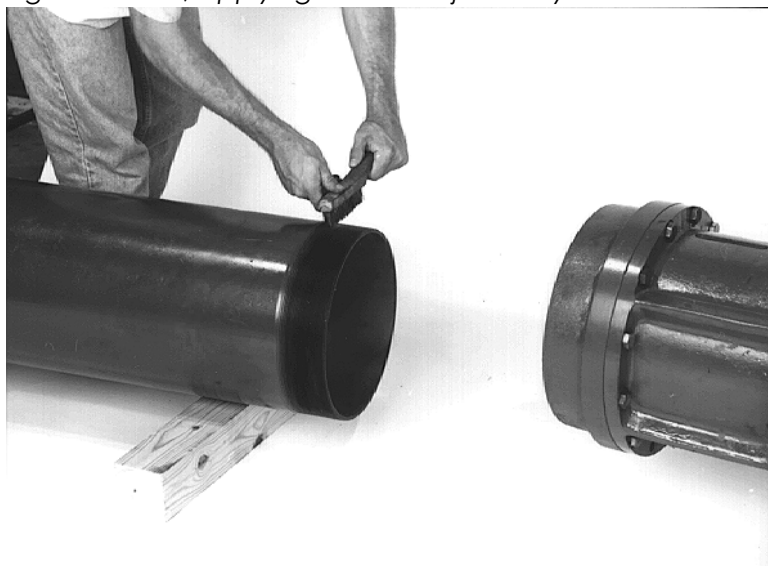

Fig. 5.2.10b Applying thread locking fluid to column pipe threads
- Apply thread locking fluid, e. g. Loctite 242 or DELO 5249/5349 or equivalent, to the threads as shown in Figure 5.2.10b, applying to the first joint only.